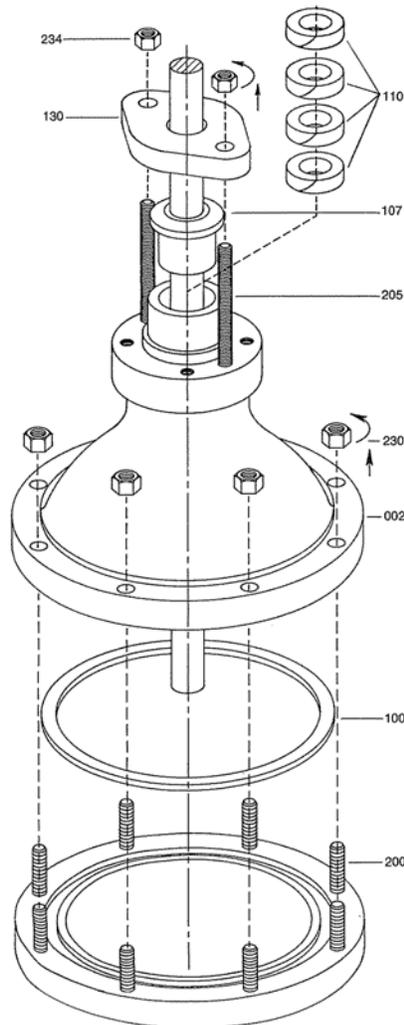

Figure 12
4. Install new rings one at a time in the sequence shown on the valve assembly drawing (Fig. 12). Be careful that the cut ends of the rings butt together and do not overlap. This is particularly important when packing is cut from roll stock. Install the rings with the butt joints offset 180° from each other. Do not use a pointed instrument to push the rings into position. A packing iron should be used for this purpose. The ability of packing to seal the stem is dependent on the amount of loading that each individual ring receives. It is particularly important for the bottom rings in the stuffing box to be forced tightly into place. This is most easily accomplished by ramming the rings into place with the packing iron. When packing double packing boxes with leak-off, it is essential that sufficient rings of lower packing be installed to position the lantern ring at the level of the leak-off. When the stuffing box is full, tighten the gland nuts evenly to ensure that the gland is concentric with the stem. Cocking of the gland or gland flange can cause binding and scoring of the stem.
#### 6.2.2 Bonnet: (Fig. 12)